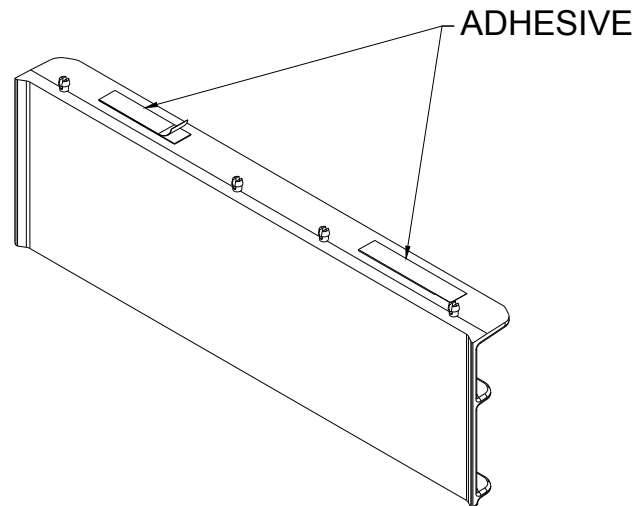

Figure 1.4 Platter Bracket
2. Remove adhesive tabs from platter holder located in two places per holder (refer to Figure 1.4).